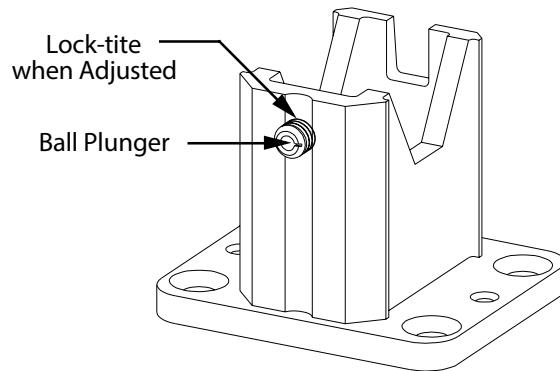

Figure 1
- 1 Adjust ball plunger for top and bottom fitting. Adjust ball plunger out until ball is com- when fitting is engaged with mullion. Once adjusted properly, lock-tite in place. See Figure 1